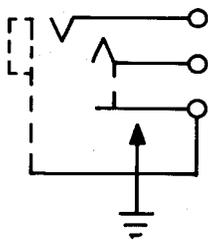

Fig. 11—512A Jack
2.11 **512A:** The 512A (Fig. 11) is a unit-type jack.